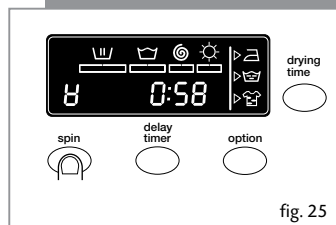

fig. 25
- Pressing the spin button again will select the anti-crease option (Figure 25).